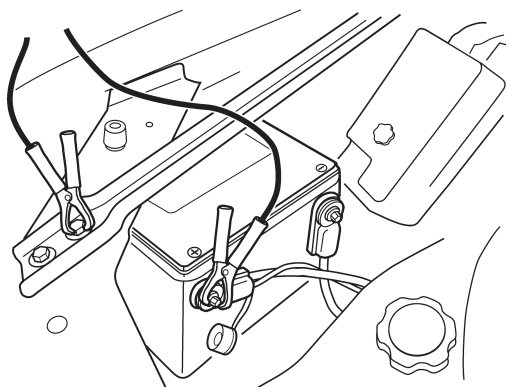

Figure 2
4. Connect the TransFlow machine to the vehicle 12V DC power source by connecting the red battery clip to the positive (+) battery post on the vehicle and connect the negative lead to a known good chassis ground. See Figure 2.